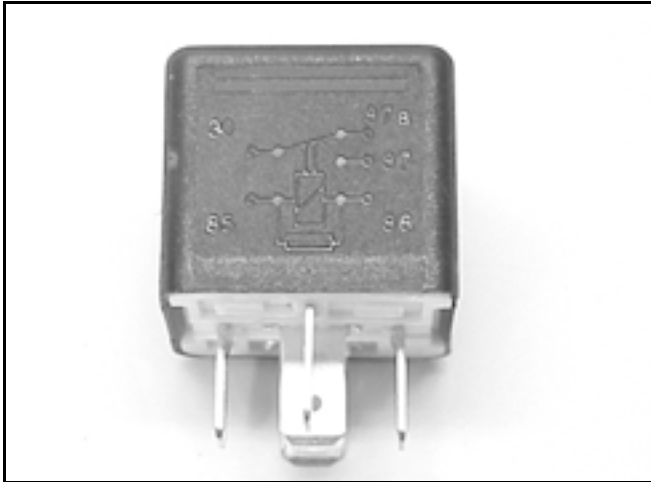

Figure 219
2. Switch: Terminals 30, 87, and 87a are actually part of a single pole, double throw (SPDT) switch. Terminal 30 is the common lead. The switch is spring loaded so that 30 and 87a are connected when the coil is not energized. When the coil is energized, the switch is “thrown” and 30 and 87 are connected (Figure 219).